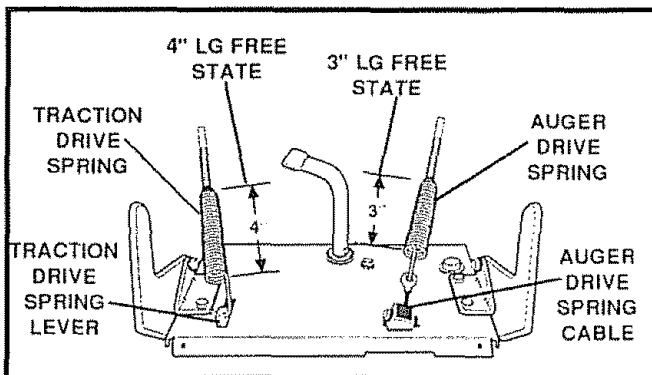
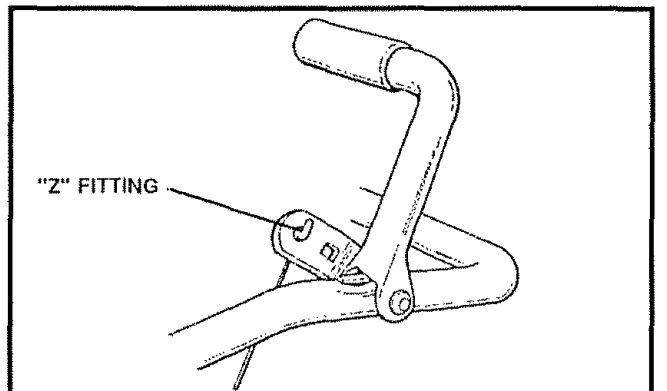

FIG. 3A
FIG. 3
- Install the control cables to control levers as shown in Fig. 3 and Fig. 3A.
NOTE: If control cables have become unattached from motor mount frame, reconnect cables (See Fig. 3A below).